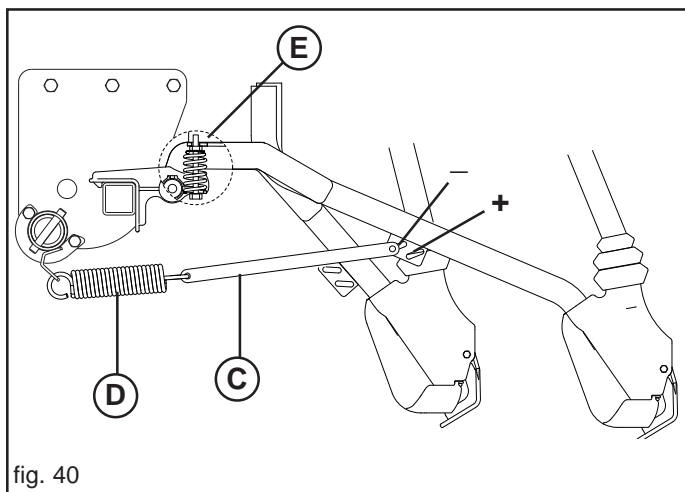

fig. 40
You can further adjust the pressure, separately, changing the position of the tie-rod (C, Fig. 40).
With suffolk coulters only a spring (det. E, Fig. 40) is supplied, as an accessory, to reset the weight of each individual spring element (D) when the spring is fully unloaded. Shallow seeding is possible in this condition.